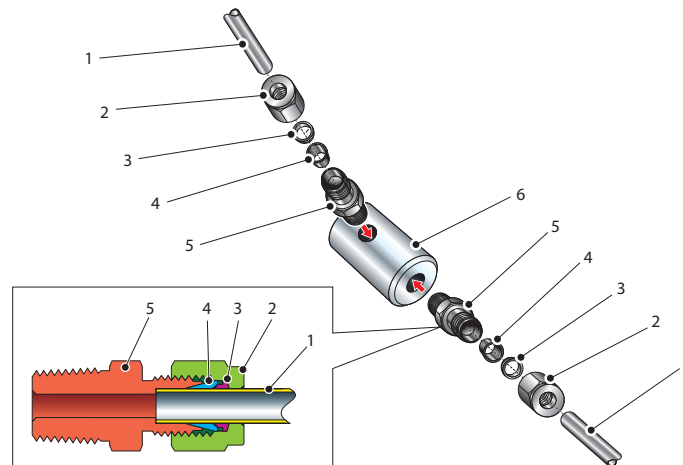

Figure 22 *Sample Block Gas Connections*
Sample gas connections are made to the Gas In and Gas Out ports on the sample block see *Figure 22*. Either port on the sample block may be used as the Gas Input port (i.e. for connection purposes the ports are interchangeable).
Both the Input and Output gas connections are $\frac{1}{8}$ " NPT. It is recommended that both the Gas Input and Output connections are made via $\frac{1}{8}$ " NPT to 6mm or $\frac{1}{8}$ " NPT to $\frac{1}{4}$ " stainless steel tube adaptors (2 to 5 – *Figure 22*). The method of connection to the sensor block (6) is as follows: